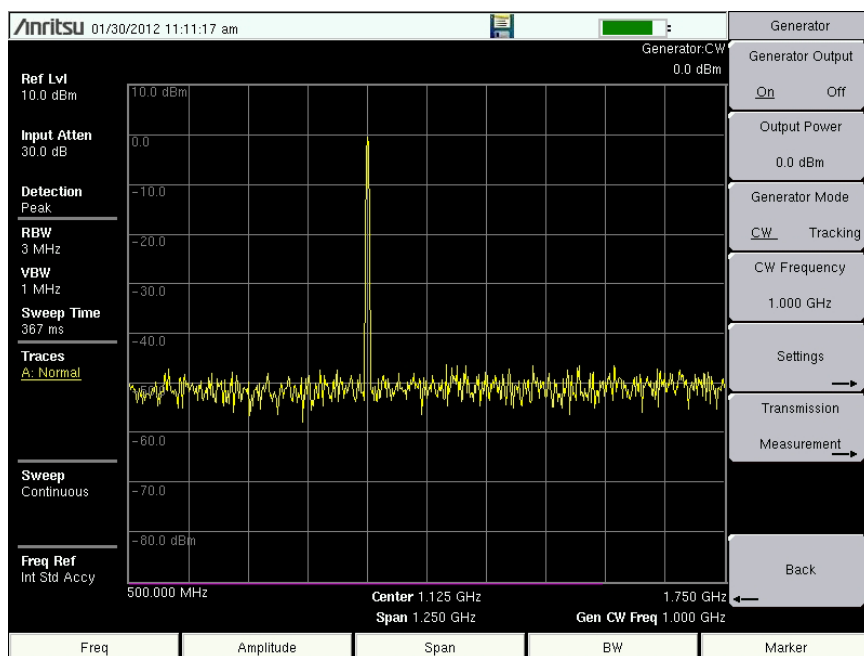

Figure 2-9. CW Output Example
- Figure 2-9 displays the CW output at 1 GHz frequency and 0.0 dBm power. Refer to “Generator Menu” on page 2-11 for additional information.